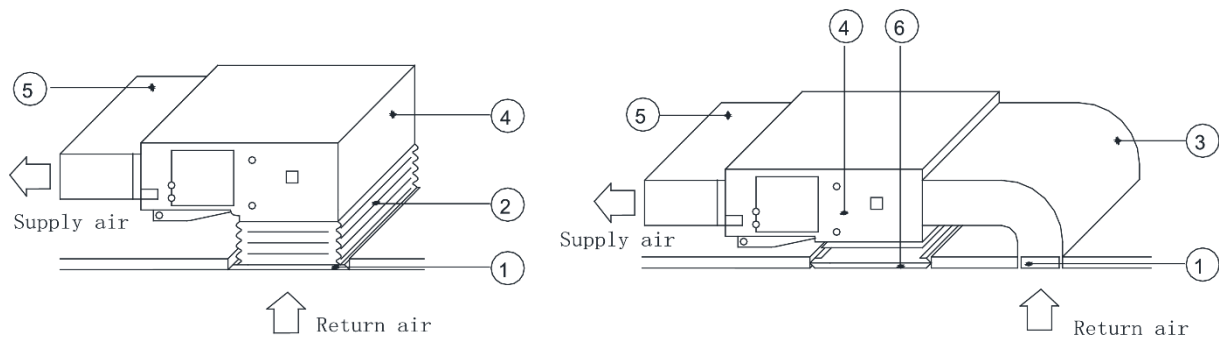

Fig 4.4.7
- (2) If the bottom return air is desired, just change the place of the rectangular flange and the return air cover plate.
- (3) Connect one end of the return air duct to the return air outlet of the unit by rivets and the other to the return air louver. For the sake of the convenience to freely adjust the height, a cutting of canvas duct will be helpful, which can be reinforced and folded by 8# iron wire.
- (4) More noise is likely to be produced in the bottom return air mode than the rear return air mode, so it is suggestive to install a silencer and a static pressure box to minimize the noise.
- (5) The installation method can be chosen with considering the conditions of the building and maintenance etc., as shown in Fig 4.4.7.